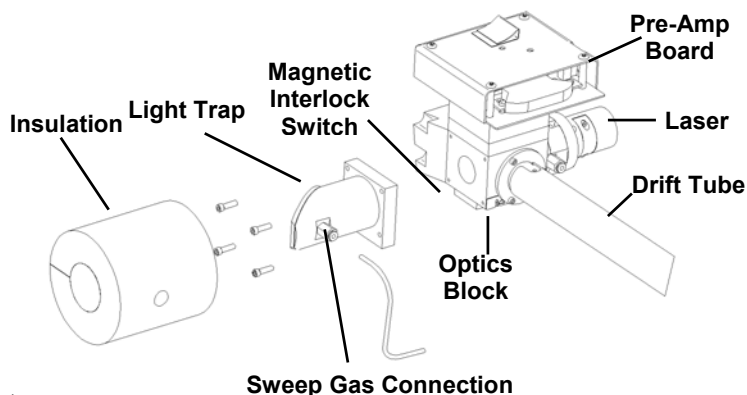

Figure 5.1: Optics Block Cleaning Procedure
Reference: Figure 5.1
8. Using the hex ball driver, remove the 4 hex head screws connecting the light trap to the optics block and carefully remove the light trap. Refer to Figure 5.1 for details. To clean, inspect the inside of the light trap for residue. Swab the inside of the light trap as necessary with a suitable solvent to clean any residue. The inside of the light trap should be black.
10. Once the optics have been cleaned, reattach the light trap and replace the 4 hex head screws. Make sure the light trap has the proper orientation so the magnetic interlock makes the proper connection. Refer to Figure 5.1 for details.